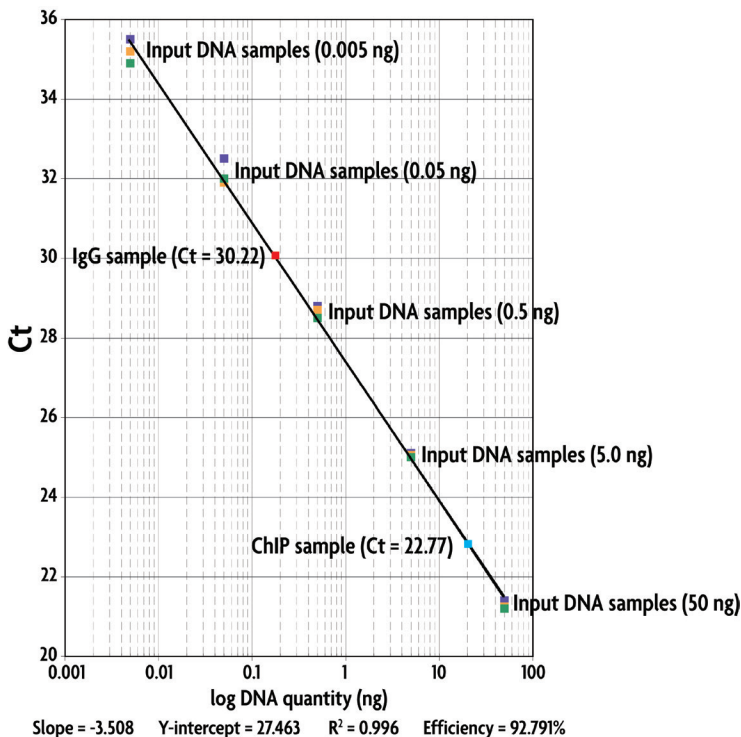

Figure 3: Standard curve produced from ten-fold dilutions of Input DNA.
4. Plot Ct vs. DNA quantity (log scale) of the dilutions to produce the standard curve (Figure 3).
B = the Ct value where $X = 1$, (e.g. 27.46 cycles in Figure 3)
ChIP Ct = 22.77 cycles (from Figure 3)
IgG Ct = 30.22 cycles (from Figure 3)
Using the data from Figure 3, calculations are performed as follows:
In Figure 3, the slope = -3.508
Slope = -3.508 (from Figure 3)
Input Ct = 21.36 cycles (use the value of the Input DNA standard closest to the ChIP sample, which is the 50 ng Input DNA sample in Figure 3)